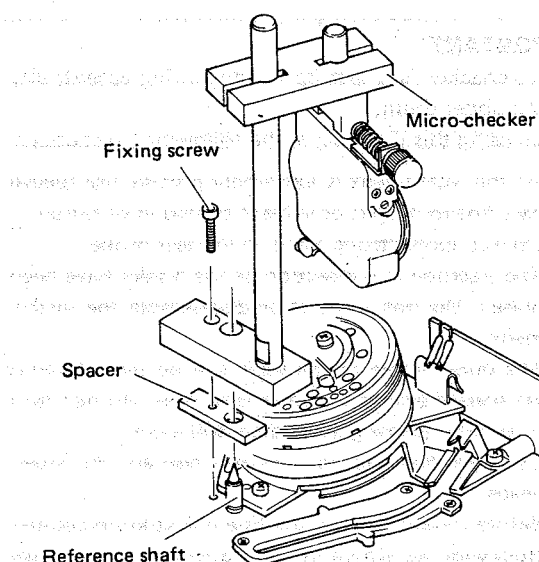

Fig. 2-12 Micro-checker mounting
3. Set the micro-checker (PUJ49712-2) on the guide pin as shown in Fig. 2-12. Use the accessory hex wrench (metric) to tighten the fixing screw.